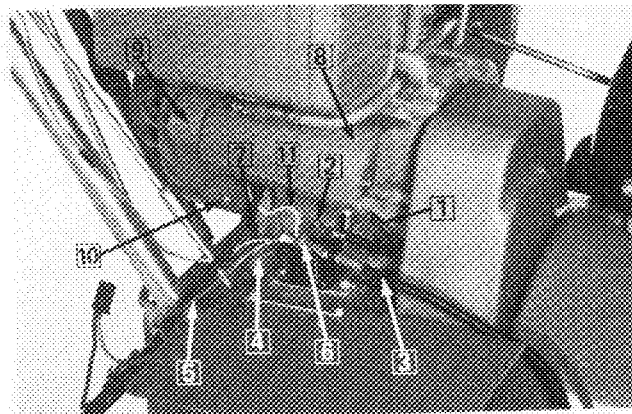

Figure 7
11. Install wire assembly connecting starter motor to inside terminal of solenoid (Fig. 7).
12. Connect positive battery cable, red wire of wire harness and red wire of charging plug to outside terminal of solenoid (Fig. 7).
13. Connect orange wire of wire harness to small terminal on solenoid (Fig. 7).
14. Slide starter motor cover into mounting position behind bottom of fuel tank bracket and secure with two self tapping screws previously securing fuel tank bracket (Fig. 7).